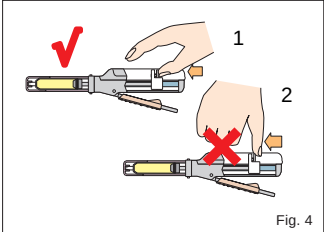

Fig. 4
c) After cartridge loading, slide the release lever forward until it stops. (Fig. 4)